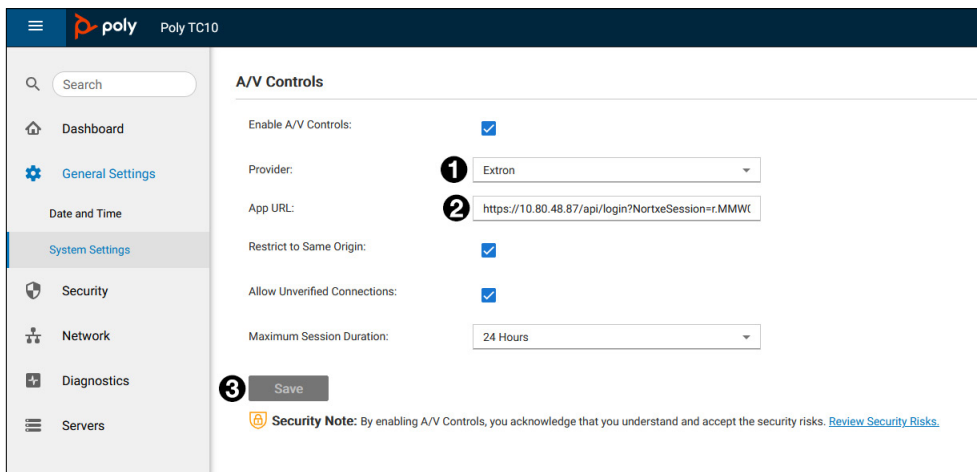

Figure 8. Link to Control Processor
5. In Provider drop-down select **Extron** (see figure 8, ❶).
6. Enter your generated direct access link into the **App URL** field (❷).
7. Click **Save** (❸).